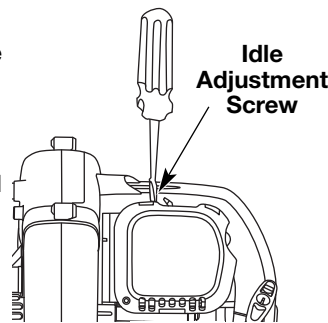

Fig. 30
The idle speed of the engine is adjustable. An idle adjustment screw is between the air filter cover and the engine starter housing (Fig. 30).
- Release the throttle trigger and let the engine idle. If the engine stops, insert a small phillips in between the Air Filter Cover and the Engine Cover (Fig. 30). Turn the idle speed screw in, clockwise, 1/8 of a turn at a time (as needed) until the engine idles smoothly.